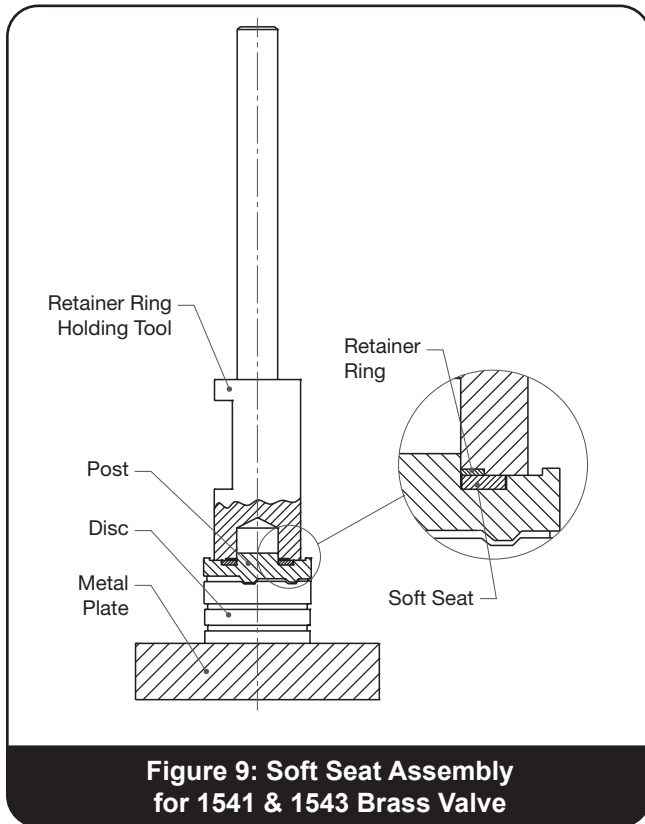

Figure 9: Soft Seat Assembly for 1541 & 1543 Brass Valve
- a. Clean disc, put it on a metallic plate (See Figure 9). Disc surface having spindle pocket will lie on the metal plate.
- c. Pick-up an appropriate Retaining Ring and tool assembly (See Table 5). Place Retaining Ring on the Disc. Subsequently put tool assembly in the mechanical press (not shown in Figure 9). Provide slight force to position Retaining Ring over the post. After removing force and inspecting proper positioning of Retaining Ring, press the Retaining Ring again, hard enough, to move Retaining Ring down to hold the seat washer tightly. A properly assembled soft seat will be somewhat compressed by Retaining Ring.
(Defective part should be rejected). Put Washer on the Disc (See Figure 9).